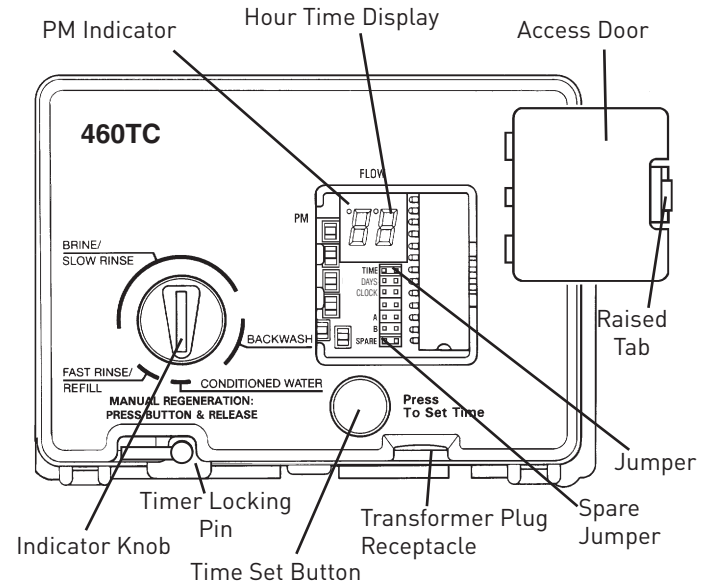

Figure 16
Open the access door by pushing the raised tab on the door toward the left while pulling the tab out (Figure 16).
**NOTE: The Timer Locking Pin should always be horizontal (Figure 16) during operation.**
4. Using a screwdriver, remove injector screen and injector cap (Figure 16).